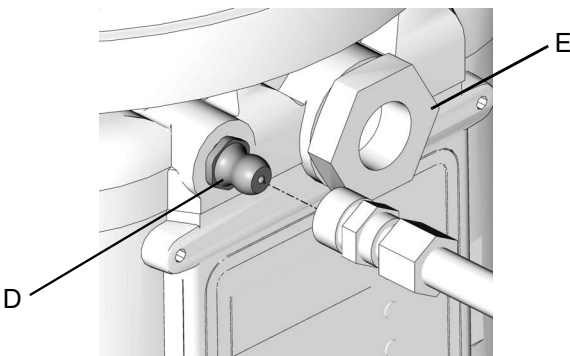

FIG. 13
1. Connect fill hose to Zerk inlet fitting (D) (FIG. 13).